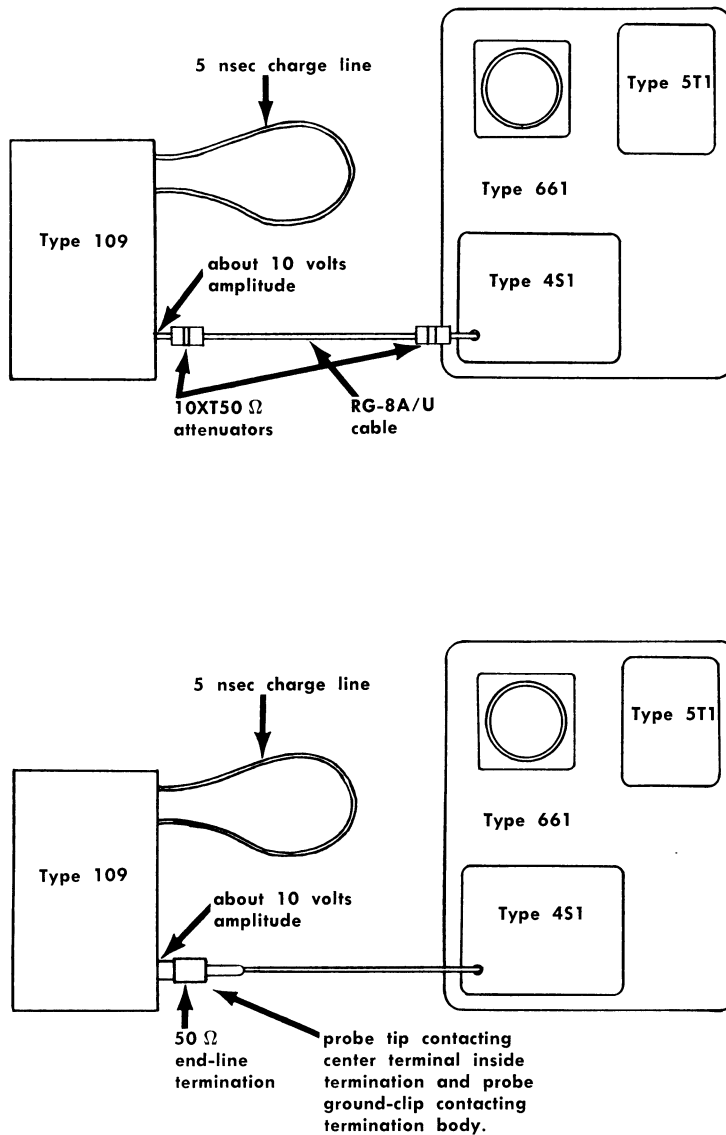

Fig. 7. Equipment set-up for compensating the P6035.
1. Connect the equipment as shown in set-up #1, Fig. 7.